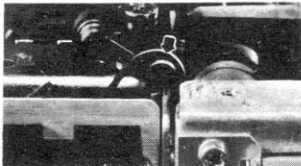

Fig. 27
4) Arrange the relay belt on the mechanism boss. (Refer to Fig. 27)